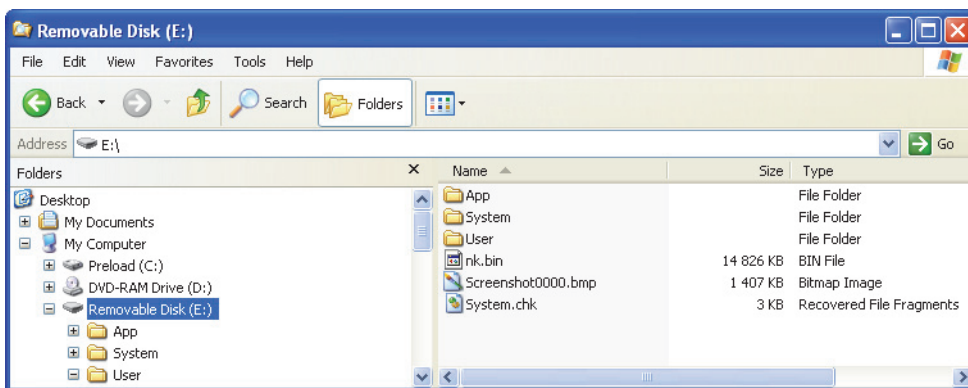

Figure 4-29 Pasting the User folder to the storage card
- b) Select the root folder of the storage card [**Removable Disk (E:)** in the example seen in Figure 4-29 on page 91].
- c) Right-click the **User** folder of the root folder [**Removable Disk (E:)** in the example seen in Figure 4-29 on page 91], and then click **Paste** on the shortcut menu that appears.